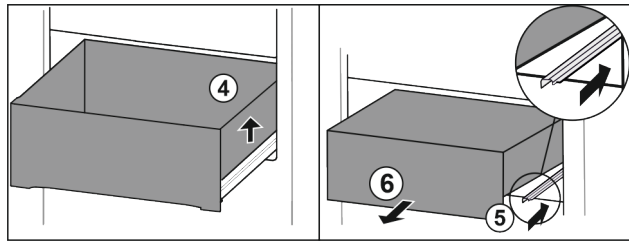

Fig. 107
- ▶ Lift drawer on the right. Fig. 107 (4)
- ▶ Insert right rail. Fig. 107 (5)
- ▶ Remove drawer to the front. Fig. 107 (6)